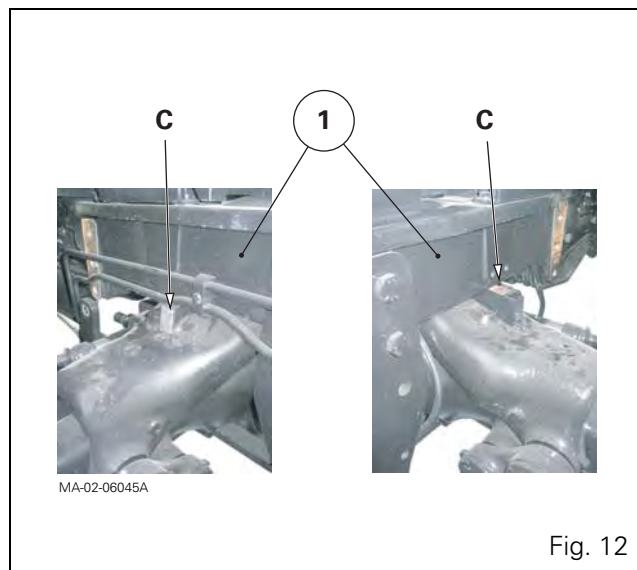

Fig. 12
23. Cancel the front axle oscillation (all versions) by sliding a suitable chock (C) in at each side of the front frame (1) (Fig. 12).